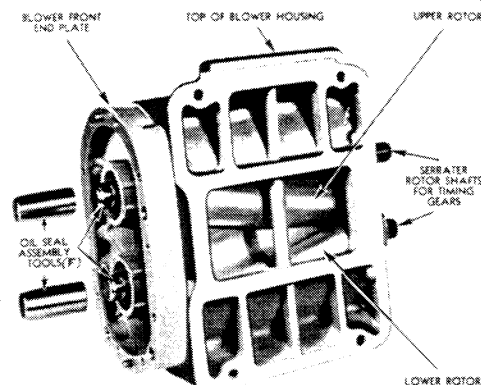

FIG. 12
4. Assembling rotors into housing. With this in mind, as outlined in item (3).
- a. Install one oil seal pilot (F) over short end (non-splined) of each rotor shaft and with rotors in mesh and omitted serrations toward top of blower housing, slip rotors into housing. (See Fig. 12).
5. Install blower rear end plate. With rotors positioned in housing as per item (4).
- a. Install one oil seal pilot (F) over serrated end of each rotor shaft.
- b. Identify top and bottom of end plate as described in item (2) and shown in